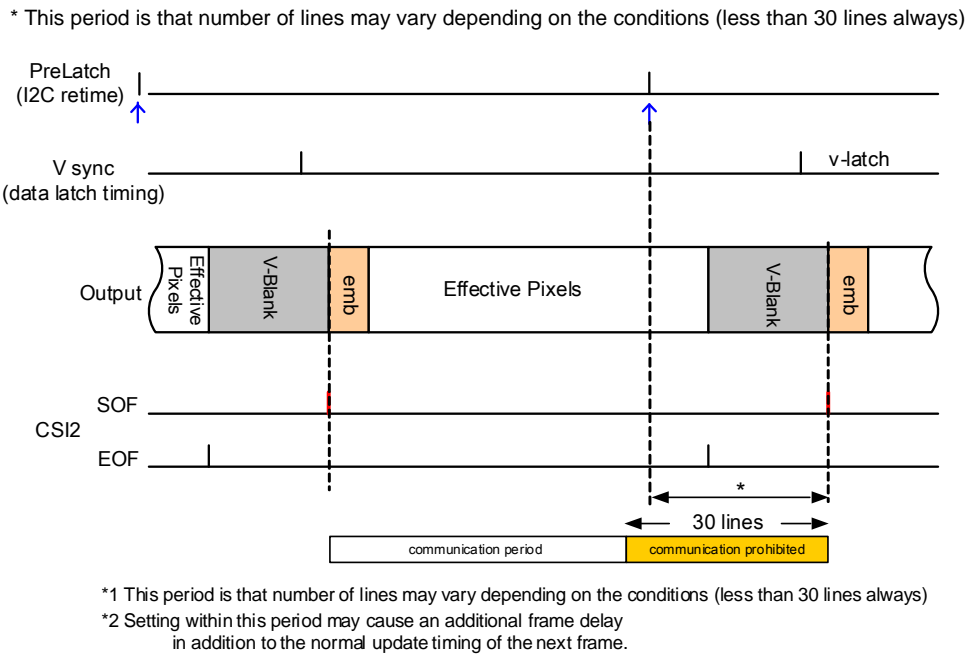

Figure 2-15 Pre-latch timing
Pre-latch timing exists several lines ahead of the embedded data (FS), and the timing changes depending on the operating condition settings. Registers written ahead of the pre-latch timing are updated internally during the next frame, however registers afterwards are updated internally but may be delayed a frame in addition to the normal update timings. The data transmission to be updated shall be completed within the communication period outlined in Figure2-15 in order to internally update the settings for the target frame; first frame for non-GPH registers and second frame for GPH registers after register settings.
recommended to release GPH within the "communication period" outlined in Figure2-15 in order to update the register with the target timing.
With this sensor, GPH can be used to update registers in continuous frames, unlikely from older product design. This is outlined in the following timing chart. Note that settings for both setting and resetting GPH must be completed within 1 frame ("communication period" shown in Figure2-15).